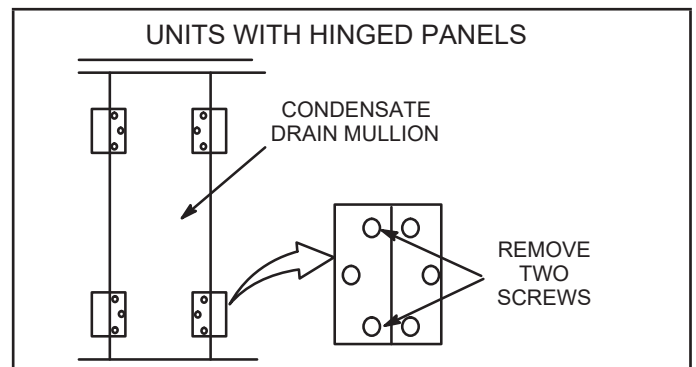

FIGURE 10
- Two hinge screws must be removed in addition to the mullion screws. See FIGURE 10.